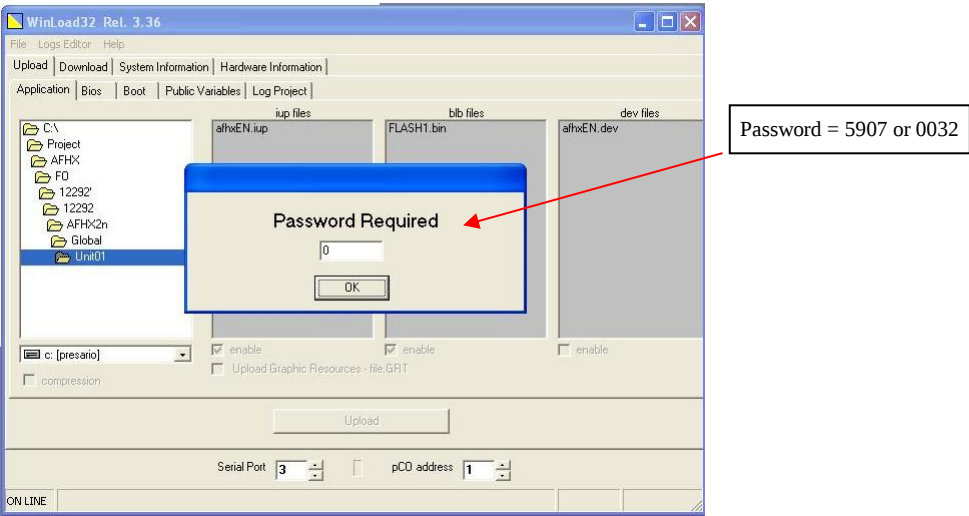
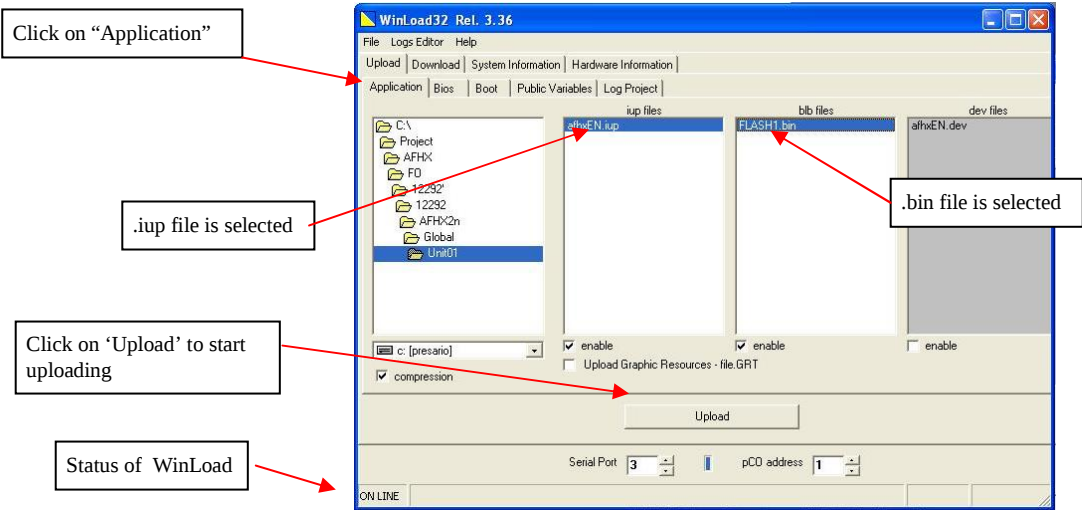

Figure 6.1.2
Figure 6.1.3
- iii. When WinLoad starts to communicate with controller, a password is required to access into the controller. The password is 5907 or 0032 (Figure 6.1.2). When WinLoad is On-Line, click on the “Upload” column. To upload application program onto the controller, column “Application” shall be selected. In this section, two files shall be selected; one is .iup file and another .bin file. (Figure 6.1.3)
- iv. Click on “Upload” to start uploading. (Figure 6.1.3)
- i. Open WinLOAD, key-in password and get WinLoad on-line with controller. (Figure 6.1.2)